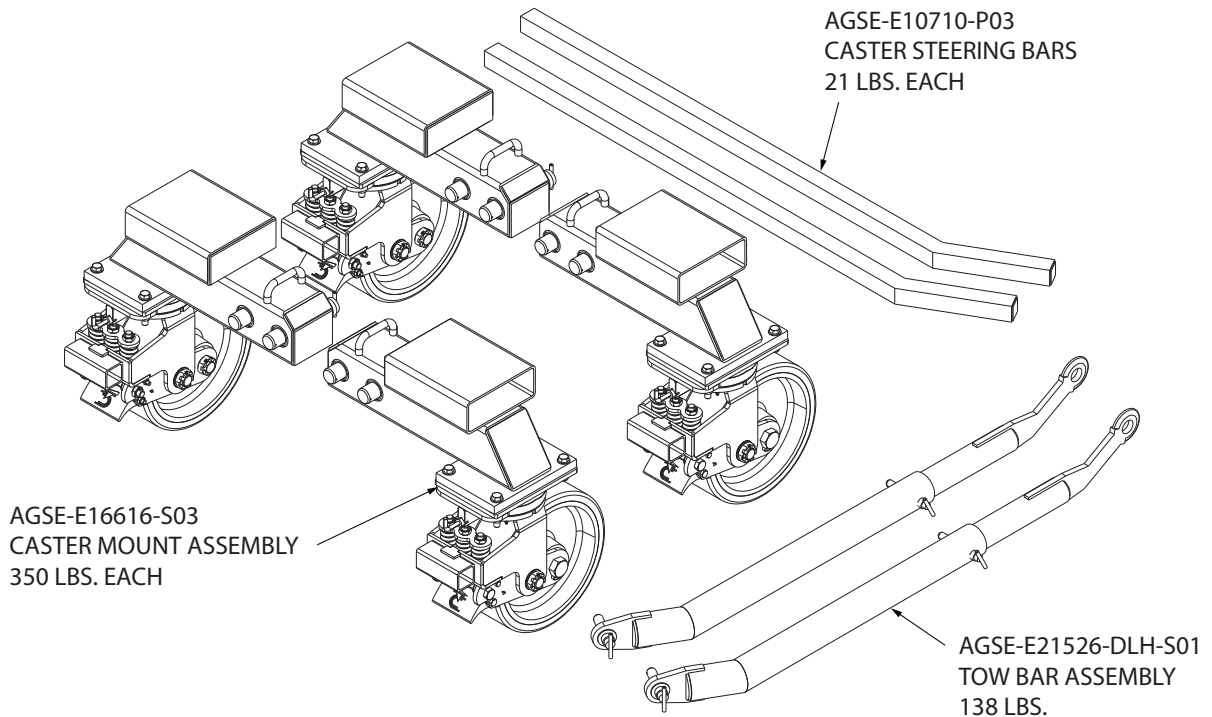

Figure 3.7-1 Casters, Caster Steering Bars and Tow Bars
3.7.1 Caster and Tow Bar Kit (Figure 3.7-1)